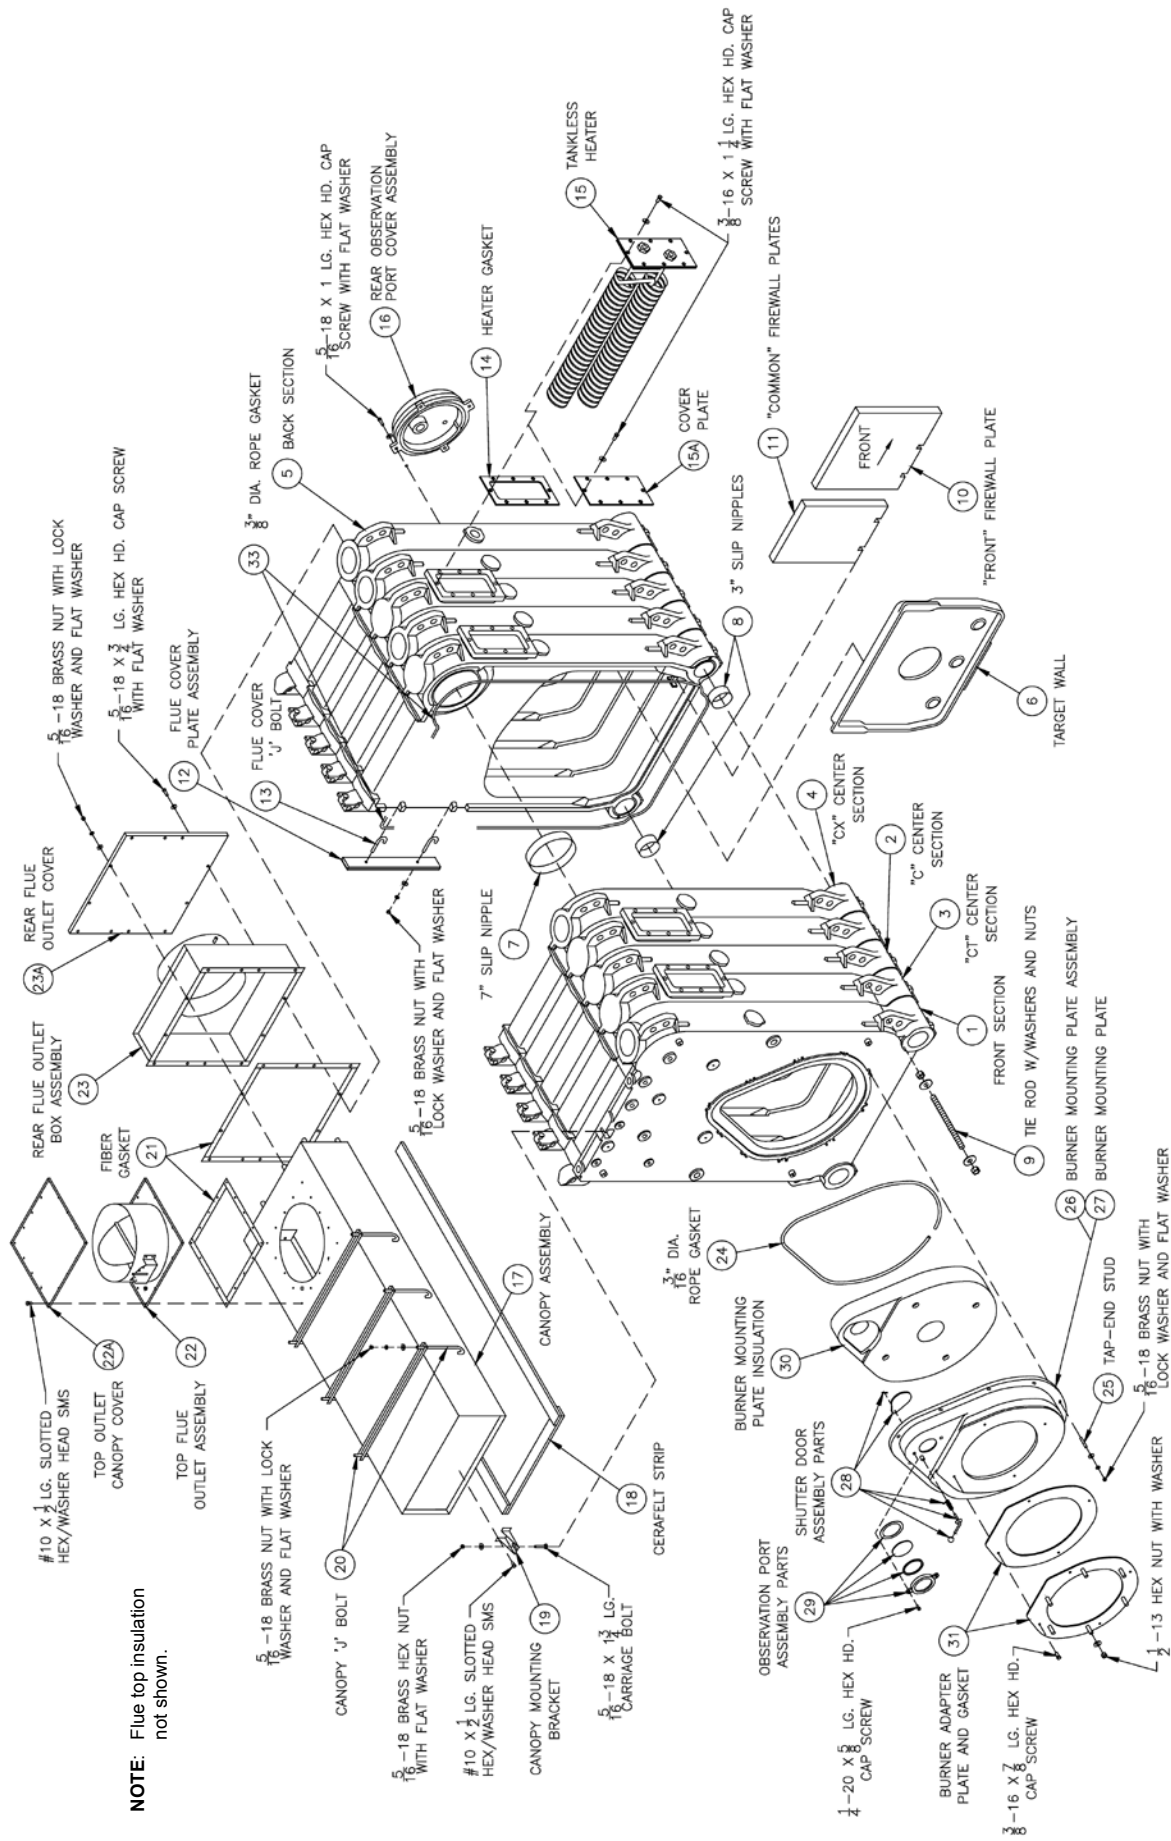

Figure 15: Bare Boiler Assembly
A. CANOPY/FLUE OUTLET ASSEMBLY, Refer to Figures 15, 16 and 17.
2. Two piece canopies should be joined together using the 1/8" x 1" wide self-adhesive fiber gasket and seventeen (17) #10 x 1/2" sheet metal screws.
3. Attach the canopy bracket to the front end cap of canopy with four (4) #10 x 1/2" sheet metal screws.
C. MOUNT REAR OBSERVATION PORT COVER, Refer to Figure 15.
2. Mount the rear observation port cover onto the rear section (with the word "Top" in the upright position) using the (4) 5/16"-18 X 1" cap screws and washers provided.
E. INSTALL THE CERAMIC FIBER FIREWALL PLATES on the right side of the center sections starting at the front and working toward the back, see Figure 15 and 19. Firewall plates are shipped in the canopy carton, see chart below for quantities required.